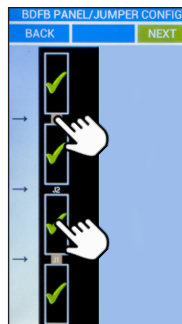

Figure 57. Panel/Jumper Configuration
- Step 6.** Select the distribution panel icons (rectangular outlines) to assign panels. A check mark will appear for each selected panel. Assign bus jumpers (J1/J2/J3) by tapping the area between the distribution panel icons. The jumper icons will appear as a bronze color when selected (see Figure 57). Once the panel/jumper positioning has been chosen, select NEXT.